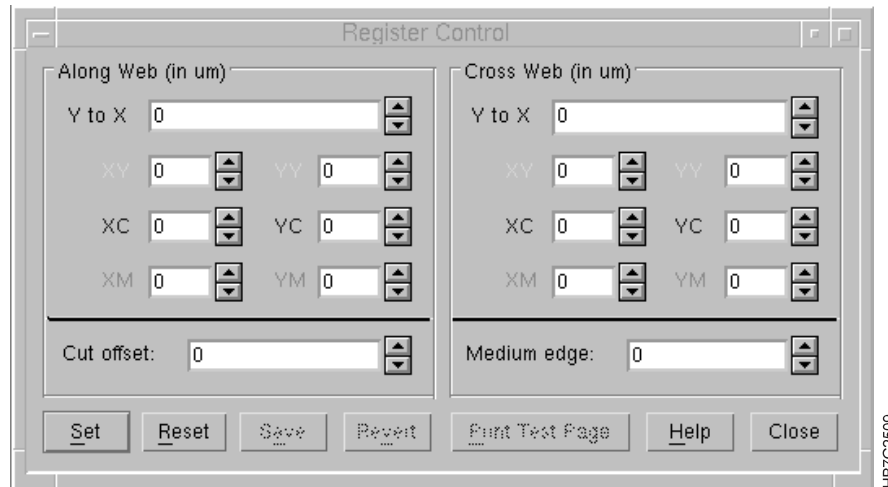

Figure 162. Register Control Window
- 1 Open the **Register Control** window, as shown in Figure 162.